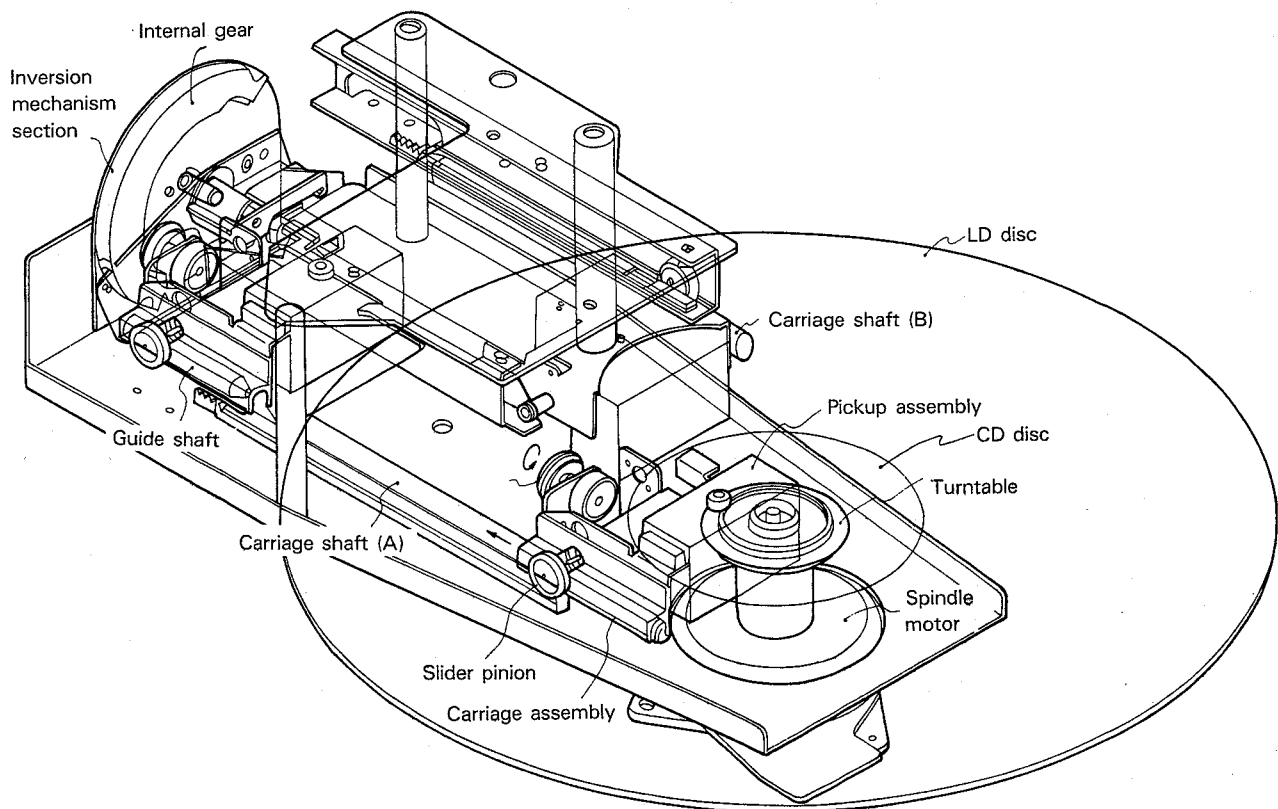

Fig. 1-1-2 Overall diagram of the “Alpha-Turn” both-sides playback mechanism
Fig. 1-1-2 is a diagram showing the outline of the “ $\alpha$ -turn” system both-sides playback mechanism. In this system, since the two carriage shafts (A) and (B) are securely fixed along the upper and lower surfaces of the disc, while the guide shaft in the inversion mechanism is located on the same axis with respect to each carriage shaft (A) and (B) when playing both sides A and B, the transition of the carriage assembly can be performed smoothly.